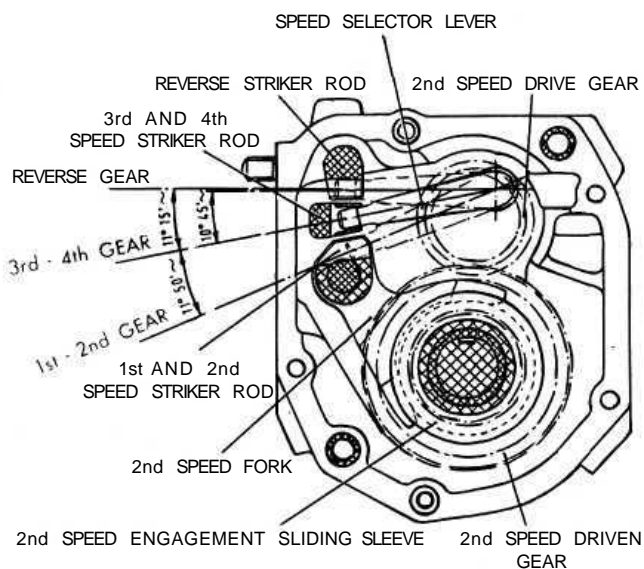

FIG 6:5 Cross section of gearbox through striker rods with the indication of the gear selector lever angular displacement
- 1 Remove the speedometer drive support together with its gears. Remove the front cover together with its gasket and the gear selection rod (see FIG 6:2).